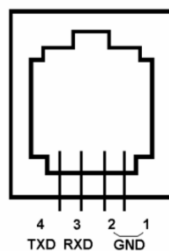

Figure 9. Serial port pin out on an 8407 hand controller
- Serial port: connect the HC to a Computer via a RS232 to 4-wire RJ-9 cable. The pin out of the serial port is shown in Figure 9.